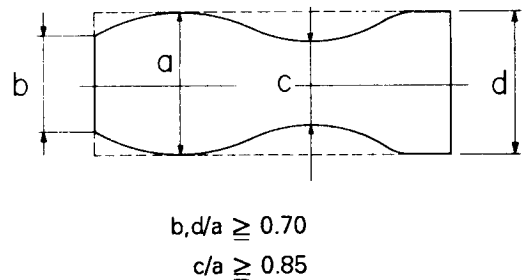

Fig. 10 Envelope Waveform Adjustment
3. Make sure the video envelope waveform (in its minimum or maximum output) meets the specification shown in Fig. 10. If it does not, adjust as follows ;